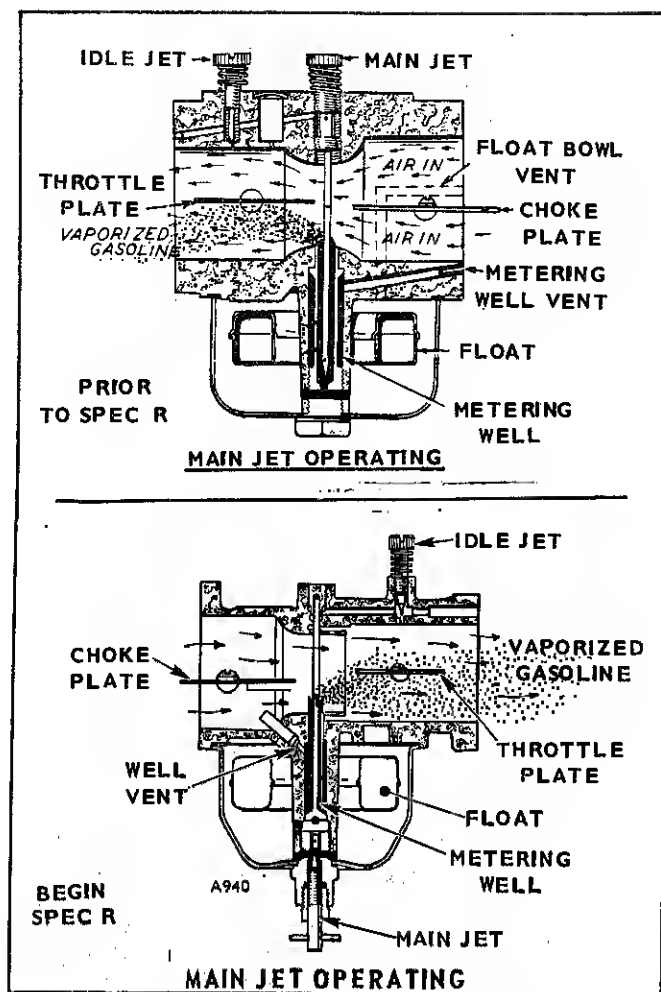

FIGURE 13. MAIN JET OPERATION
1. Install the throttle shaft and valve, using new screws. Install as shown in Fig. 13 with the bevel mated to the carburetor body. On valve plates marked with the "C", install with mark on side toward idle port when viewed from flange end of carburetor. To center the valve, back off the stop screw, close the throttle lever and seat the valve by tapping it with a small screwdriver; then tighten the two screws.